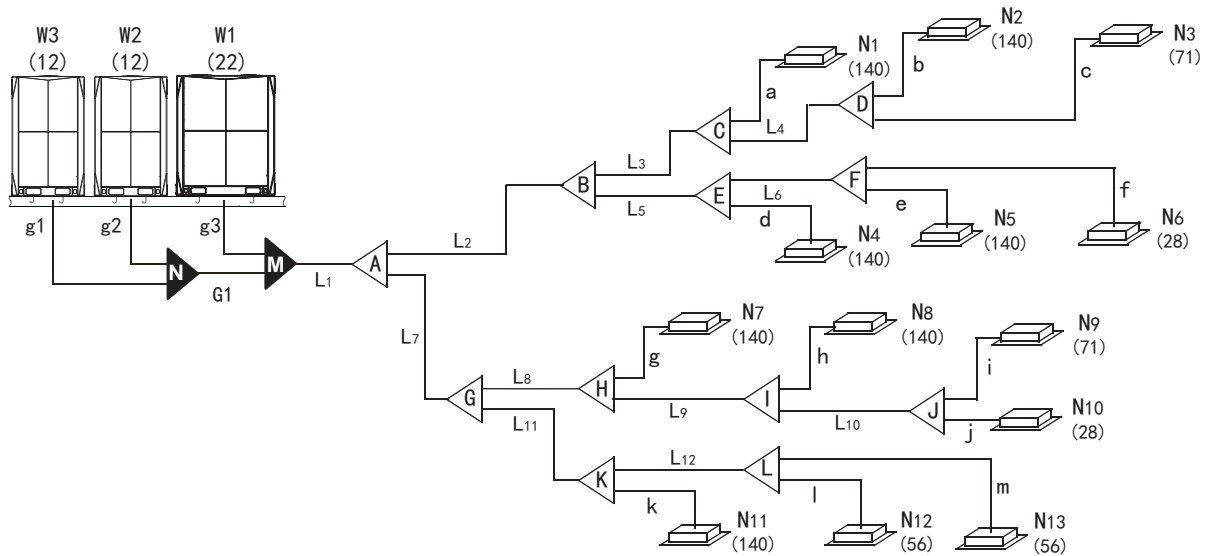

Fig.5-3
e.x.1: Refer to Fig.5-3, the capacity of downstream units to L4 is $140+71=211$, the gas pipe for L2 is $\Phi 19.1$, liquid pipe is $\Phi 9.5$.